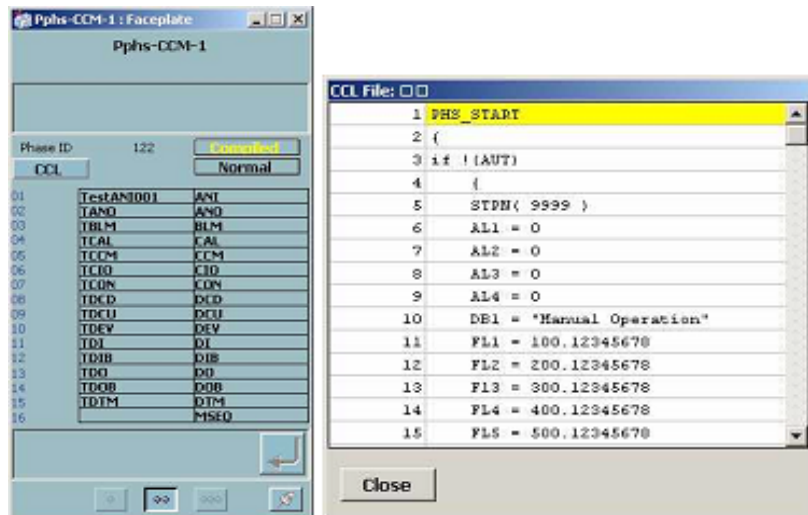

Figure 201. PHS Module (with CCL Pop-up)
**Phase (PHS).** The Phase module faceplate represents a phase operation function block in an 800xA for DCI controller. The PHS module reports the phase ID, the CCL (Controlware Command Language) file currently associated to the phase module, and the pseudo device names and types used by the CCL file for display in the faceplate. Figure 201 shows the layout of the PHS normal sized faceplate along with a CCL pop-up and its attributes.